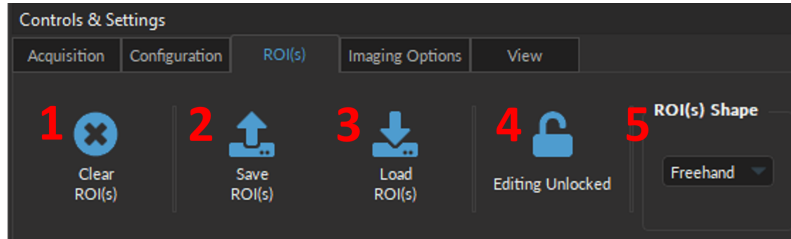

Figure 7.13: ROIs Tab
1. The **Clear ROI(s)** button (Fig. 7.13, 1) will delete all drawn regions of interest within the **Microscope View**. Note that unless the ROI(s) were previously saved, these ROI(s) cannot be recuperated.
2. The **Save ROI(s)** button (Fig. 7.13, 2) will save the region of interests drawn in the **Microscope View** in a *.doric* file, so that the identical ROI can be re-imported into the module at a later time. At least one ROI must be drawn for this feature to work.
3. The **Load ROI(s)** button (Fig. 7.13, 3) will import a previously saved *.doric* file. Note that this ROI(s) configuration can be edited, but must be re-saved in order for changes to be conserved.
4. The **Editing Unlocked** button (Fig. 7.13, 4) when enabled will prevent new ROI(s) from being drawn. However, it does not prevent moving or reshaping a selected ROI.
5. The **ROI(s) Shape** drop-down (Fig. 7.13, 5) sets the geometry of the ROI, which can be added at any point, even when not under the **ROI(s) tab** and in **Live** mode (but not when using **Record** mode). Four **ROI(s) Shapes** are available: *Freehand*, *Circle*, *Rectangle*, and *Square* (Fig. 7.14, 1-4). Multiple different shapes can be used within a single **Sensor View**.